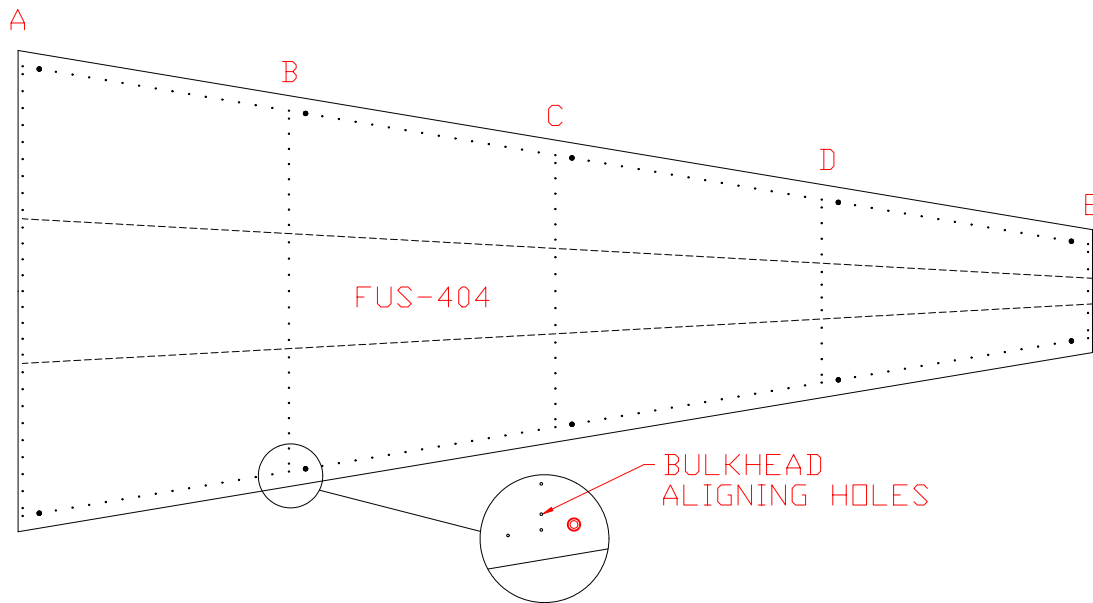

Figure 9.1.5
- 6) At each bulkhead position, drill the bulkhead aligning holes with a #40 drill. Figure 9.1.5.
- 7) From the front end of the skin, label the bulkhead positions from "A" to "E". Figure 9.1.5.